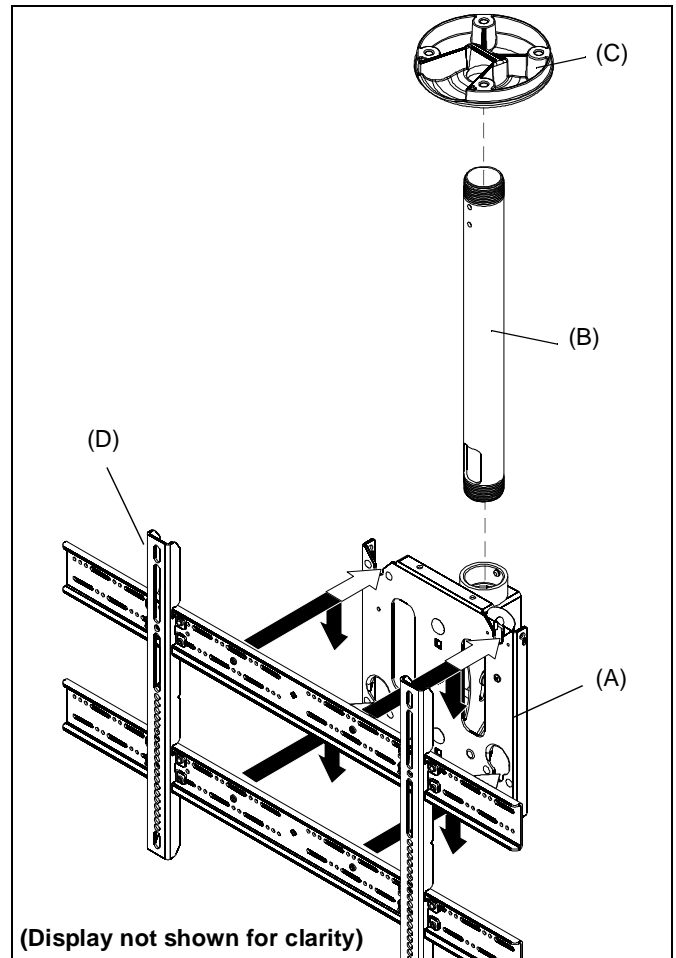

Figure 2
4. Attach the CMS018 (B) to the CMS115 (C) following instructions included with the CMS018. (See Figure 2)
5. Attach the MCS (A) to the CMS018 following instructions included with the MCS.